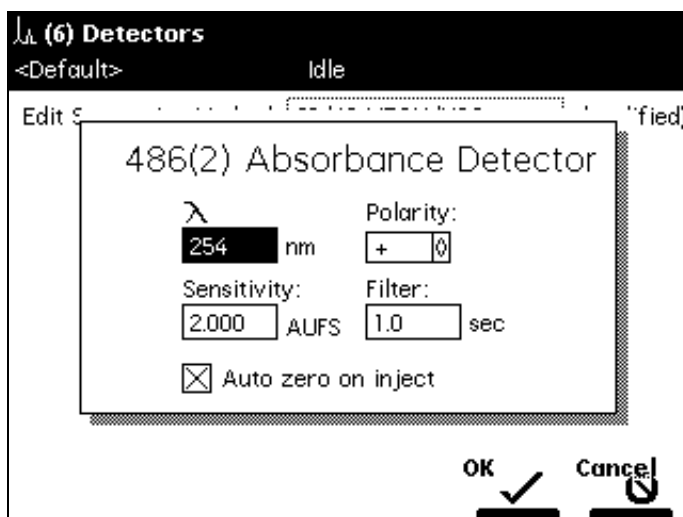

Figure 5-20 486 (2) Absorbance Detector Screen
- In the Detectors screen, press the **Abs (1)** or **Abs (2)** screen key to display the appropriate absorbance detector screen. Figure 5-20 shows the screen for a Waters 2487 Dual λ Absorbance Detector.